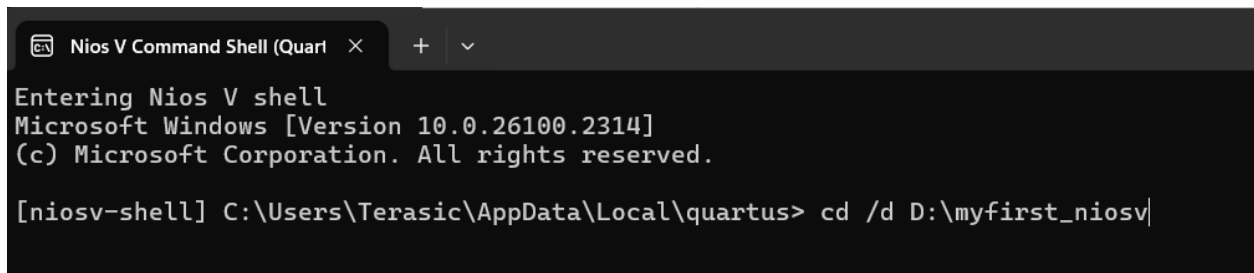

Figure 3-8 Switch working directory
8. Run the command below to switch to the working directory (see Figure 3-8).